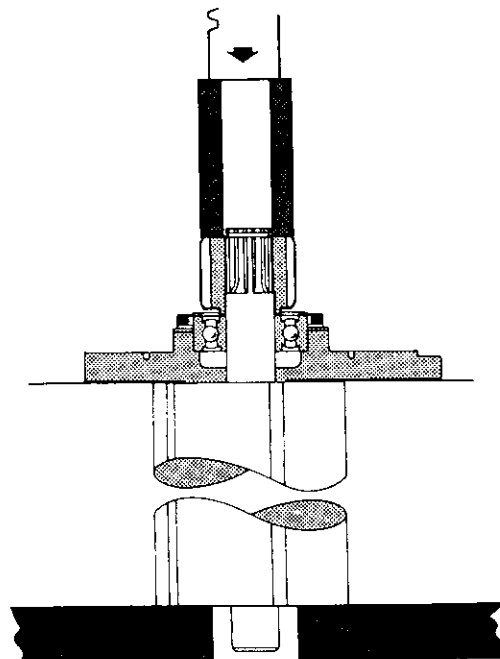

Figure 6.19
12. Invert the end plate and rotor assembly in the arbor and press the rotor pinion (44) into the rotor shaft. Install the pinion retainer (45). See Figure 6.19.